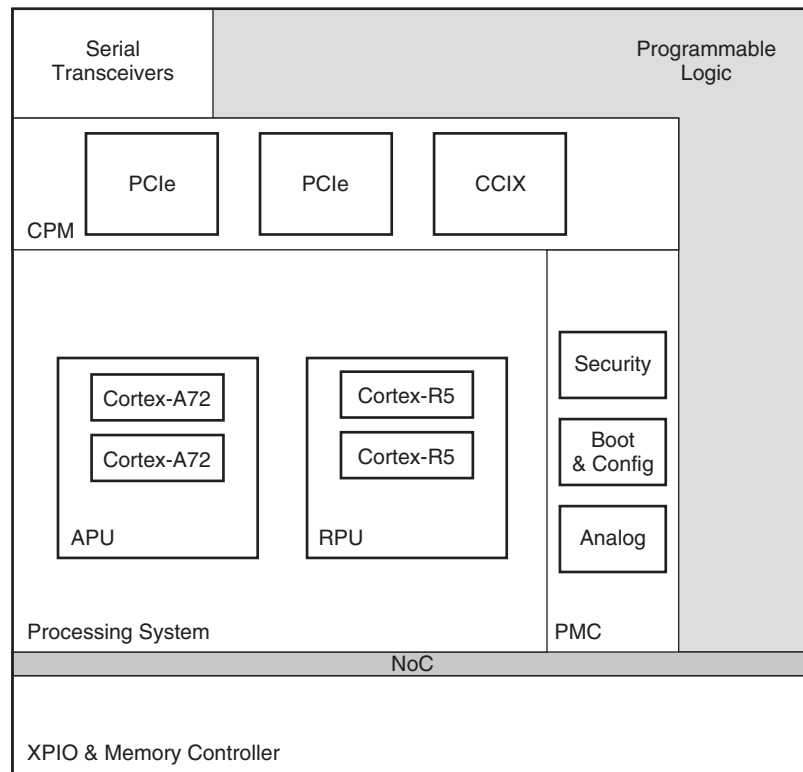

Figure 2: PS and Surrounding Blocks
All Versal devices contain a processing system (PS) consisting of Scalar Engines (APU and RPU) and peripherals. The PS is part of a group of architectural elements that include the platform management controller (PMC), CPM block, NoC, and integrated memory controllers that are tightly coupled, but are also capable of operating independently from each other. The simplified layout is shown in Figure 2.
The Versal architecture uses two different types of integrated blocks to enable PCIe designs. Versal devices can contain one or more instances of a programmable logic integrated block for PCIe designs (PL PCIE), which reside in the PL as illustrated in Figure 1. Versal devices can also contain one CPM, which resides adjacent to the PS as illustrated in Figure 2. Multiple versions of both these integrated blocks exist in the Versal architecture, with details shown in Table 8.